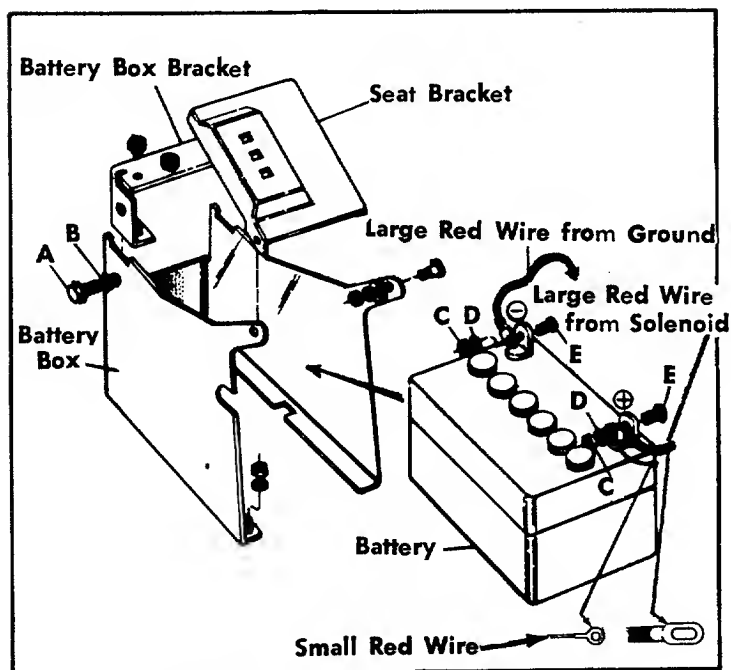

FIGURE 4. INSTALLING THE BATTERY
INSTALLING THE BATTERY (Electric Start Models Only) **See figure 4.**
- Step 5. Attach the large red wire from the solenoid and the small red wire to the positive (+) terminal of the battery with a 1/4" screw (E), washer (D) and nut (C).
- Step 6. Attach the large red wire from the ground (-) to the negative (-) terminal of the battery with a 1/4" screw (E), washer (D) and nut (C).
- Step 7. Replace the battery box bracket with screw (A) and washer (B). See figure 4.